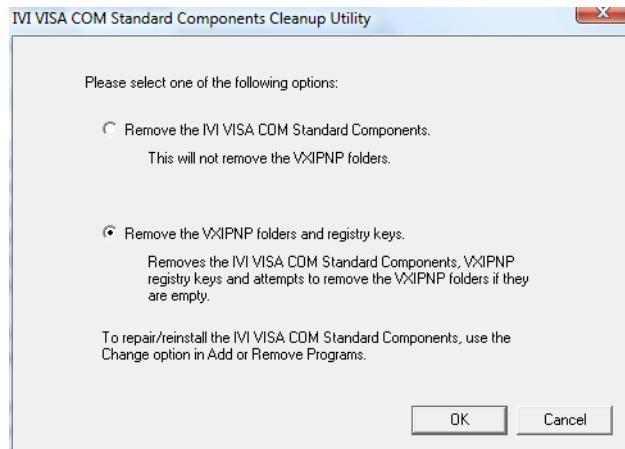

Figure 9 Uninstall all of the IVI VISA COM Standard Components
- 6 Select the **IVI VISA Com Standard Components**. This removes the IVI VISA COM Standard Components, VXIPNP registry keys and attempts to remove the VXIPNP folders if they are empty. Select the radio button as shown in Figure 9 below.